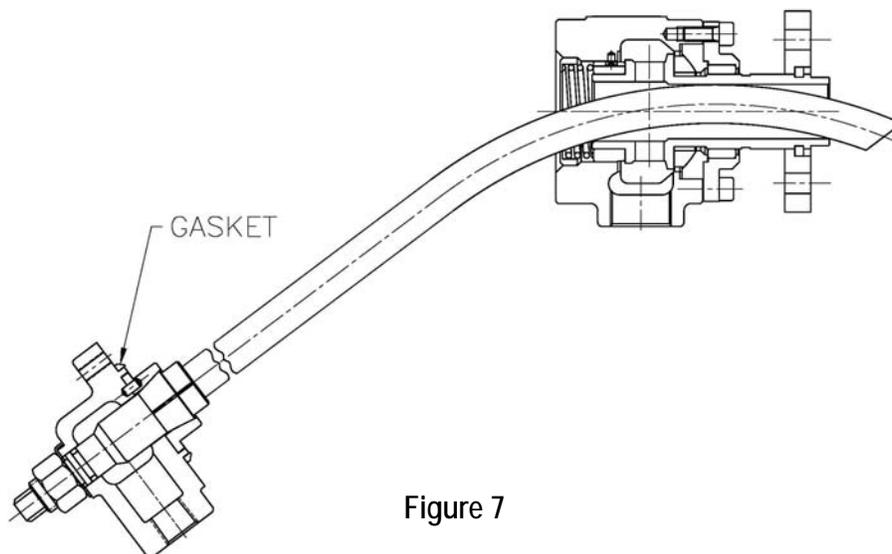

Figure 7
5. Place the copper gasket as shown in the end cap with the tapered side against the housing of the steam joint. See Figure 7.